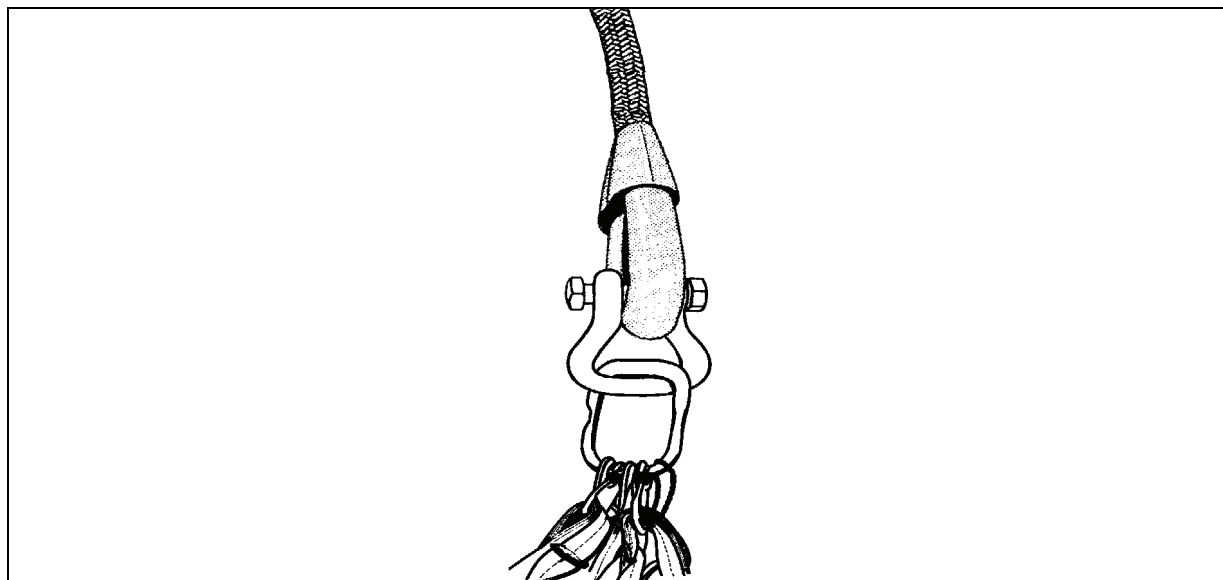

Figure 7-13. Vertical Pendant Added
- Normally the net apex fitting is directly attached to the cargo hook. If the load is a large one, the lifting legs may not be long enough to allow the hookup man to perform a safe hookup to the aircraft. If you cannot lift the apex fitting at least 6 feet above the top of the load, add an appropriate size sling leg, a reach pendant, or vertical pendant (Figure 7-13).